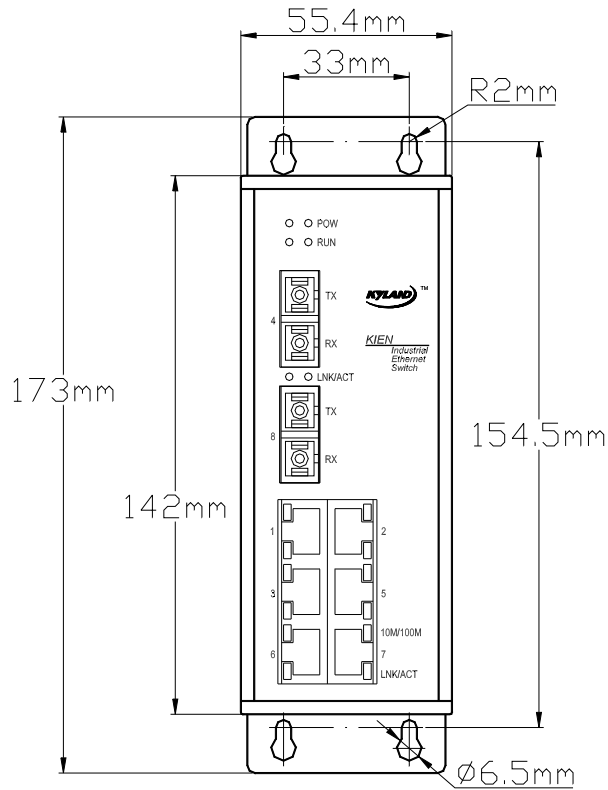

Figure 4-3 KIEN6000 wall-mounting dimensions
In some places, wall mounting may be more suitable than DIN rail mounting. KYLAND Telecom can provide the component (wall-mounting plate) for mounting KIEN6000 on wall. Wall-mounting dimensions are shown in Figure 4-3.
- 3 . Select mounting position: vertical wall or inner wall of cabinet. If you select to mount on vertical wall, you are recommended to use  $\Phi 6$  plastic expansion bolts and  $\Phi 3$  tapping screws for equipment mounting. According to the mounting dimensions marked in Figure 4-3, drill four  $\Phi 6$  holes with an impact drill on the wall (the depth of the holes should allow fully inserting the plastic expansion bolt), fully insert the plastic expansion bolts in the holes on the wall, screw down the tapping screws into the plastic expansion bolts with a cross head screwdriver but do not screw down thoroughly, reserve a distance of around 5 mm; if you select to mount on the inner wall of cabinet, you are recommended to prepare four M3 threaded holes on the inner wall of cabinet when making the cabinet according to the mounting dimensions marked in Figure 4-3, or drill four  $\Phi 4$  holes with a hand-held electric drill on site, and screw down four M3 $\times$ 10 pan head screws with cross recess into the four holes with a cross head screwdriver (if the holes are not threaded inside, it is necessary to mount four M3 nuts on the back side). Do not screw down the screws thoroughly, reserve a distance of around 5 mm.